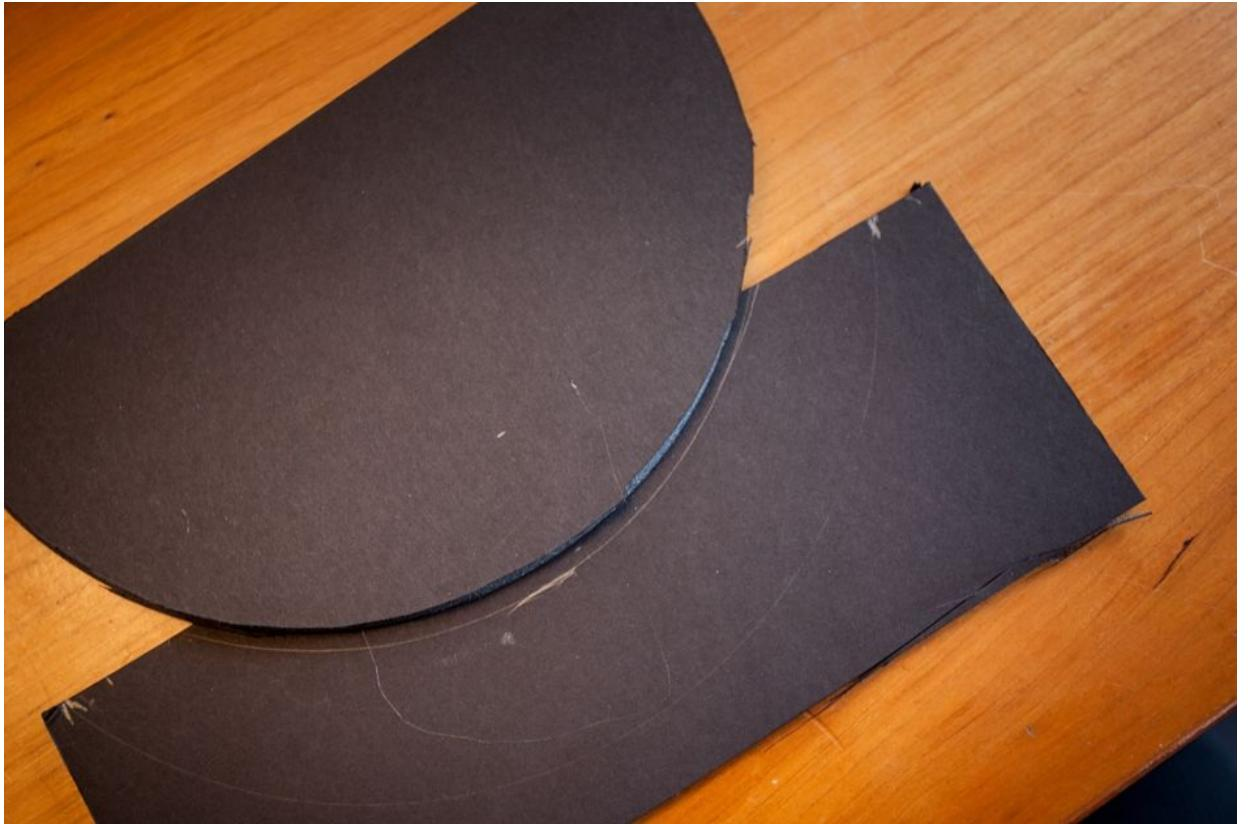

Figure 7-11. The disk support guide semicircle should overlap the disk support foot by 1 1/8" and be centered
3. Glue the base disk support guide to the base disk support so that its outer edge just reaches that mark (see Figure 7-11).